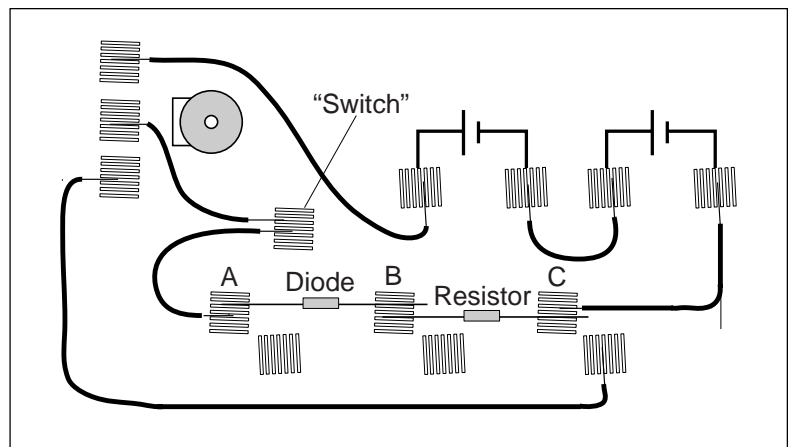
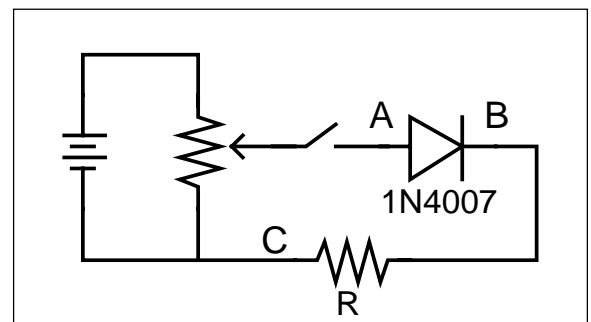

Figure 9.1a
Figure 9.1b
- ① Connect the circuit shown in Figure 9.1a using the 1N4007 diode you've been supplied and the 1000- $\Omega$  resistor. Use Figure 9.1b as a reference along with Figure 9.1a as you record your data. Note the direction that the diode is oriented, with the dark band closer to point **B**.
- ② With the "switch" closed and the current flowing, adjust the potentiometer until there is a voltage of 0.05 volt between points **B** and **C** ( $V_{BC}$ ). Measure the voltage across the diode ( $V_{AB}$ ). Record your values in the left-hand side of Table 9.1 under "Forward Bias".
- ③ Adjust the potentiometer to attain the following values for  $V_{BC}$ : 0.1, 0.2, 0.3,.....2.0 volts. Record the two voltages for each case.
- ④ Remove the 1000- $\Omega$  resistor and replace it with a 330- $\Omega$  resistor. Repeat steps 3 & 4, going from a voltage of 0.3, 0.4,.....2.0 volts. Record the two voltages in each case.
- ⑤ Reverse the orientation of the diode. Set the diode voltage ( $V_{AB}$ ) to the values 0.5, 1.0,....3.0 volts. Measure the resistor voltage ( $V_{BC}$ ) in each case. Record these values in the columns labeled "Reverse Bias".